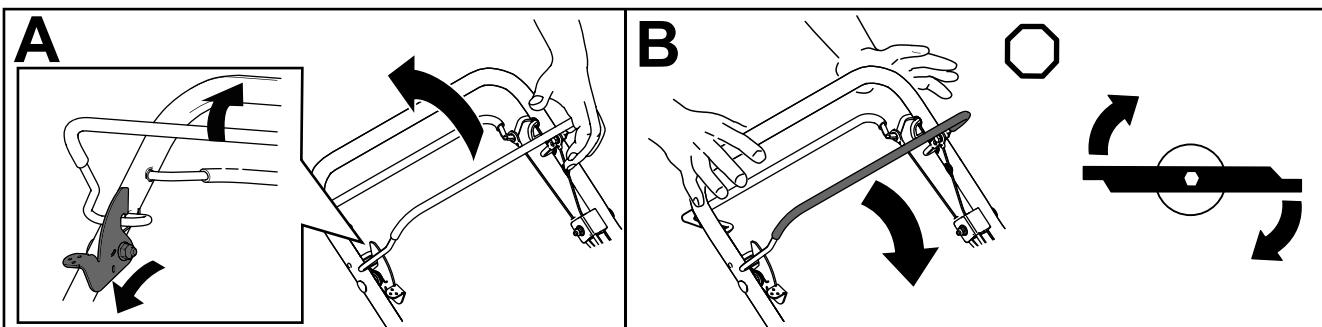

Figure 17
1. Push and hold the blade-control lock lever forward to release the blade-control bar (A of Figure 17).
2. Pull the blade-control bar to the handle and release the blade-control-lock lever; the blade should engage (A of Figure 17).
3. Release the blade-control bar to disengage the blade (B of Figure 17). The blade-control-lock lever resets to lock the blade-control bar.